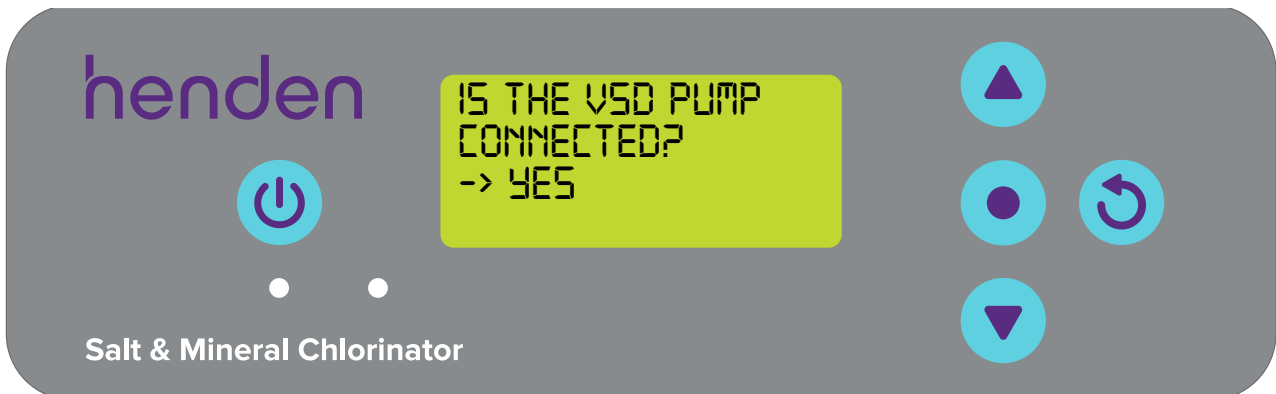

Figure 9.4
- You will be asked if a compatible VSD pump is connected. Use the   **menu up/down** buttons to toggle YES/NO when appropriate (refer Figure 9.4) and then pressing the  **menu/setting select** button.